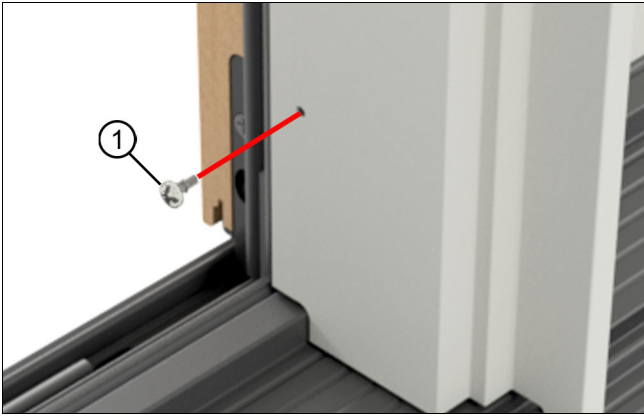

Figure 50
22. Fasten at the top and bottom with the provided #8 x 3/8" pan head, color matched, self tapping screws into the mull base. The holes in the cover are pre-drilled. See Figure 49 and Figure 50.